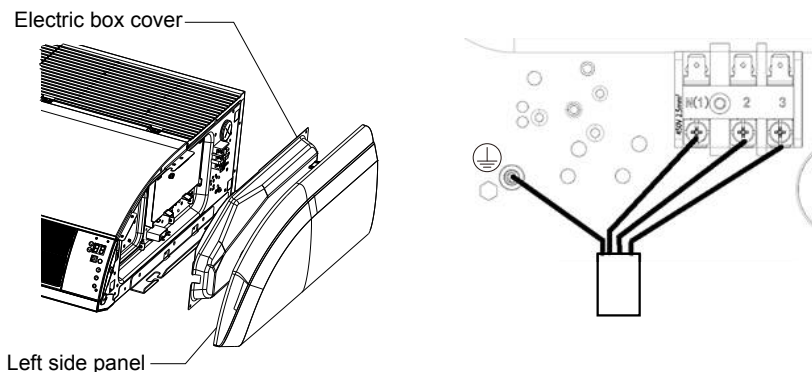

Fig. 28
- ① . Tighten the power cord respectively on the terminal boards with screws. Faulty connection may cause a fire.
- ② . If the power supply are wired incorrectly, the air conditioner may be damaged.
- ③ . Connect the indoor unit connection cord properly based on the corresponding marks as shown in Fig. 28.
- ④ . Ground both the indoor and outdoor units by attaching a ground wire.
- ⑤ . Unit shall be grounded in compliance with the applicable local and national codes.